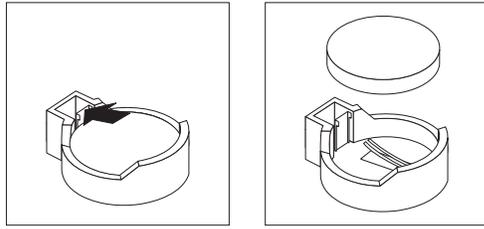

Figure 33. Releasing the battery
- a. Use one finger to press the top of the battery clip away from the battery until the battery releases upward from the socket as shown in Figure 33 on page 90.